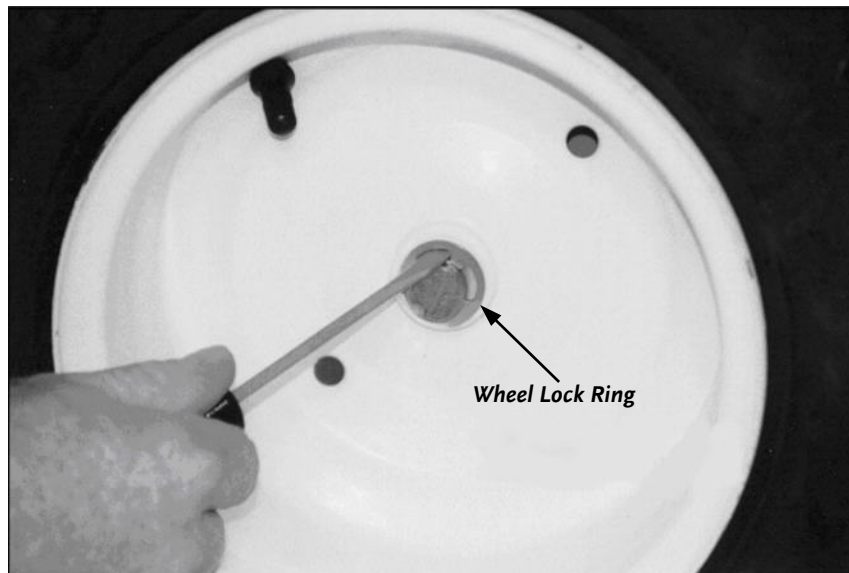

Figure 20
2. Rotate the Tire so the Key slot is upward, then pop off the Wheel Lock Ring with the Screwdriver (**Figure 20**) and save it. Remove the Washer and slide the Wheel off.